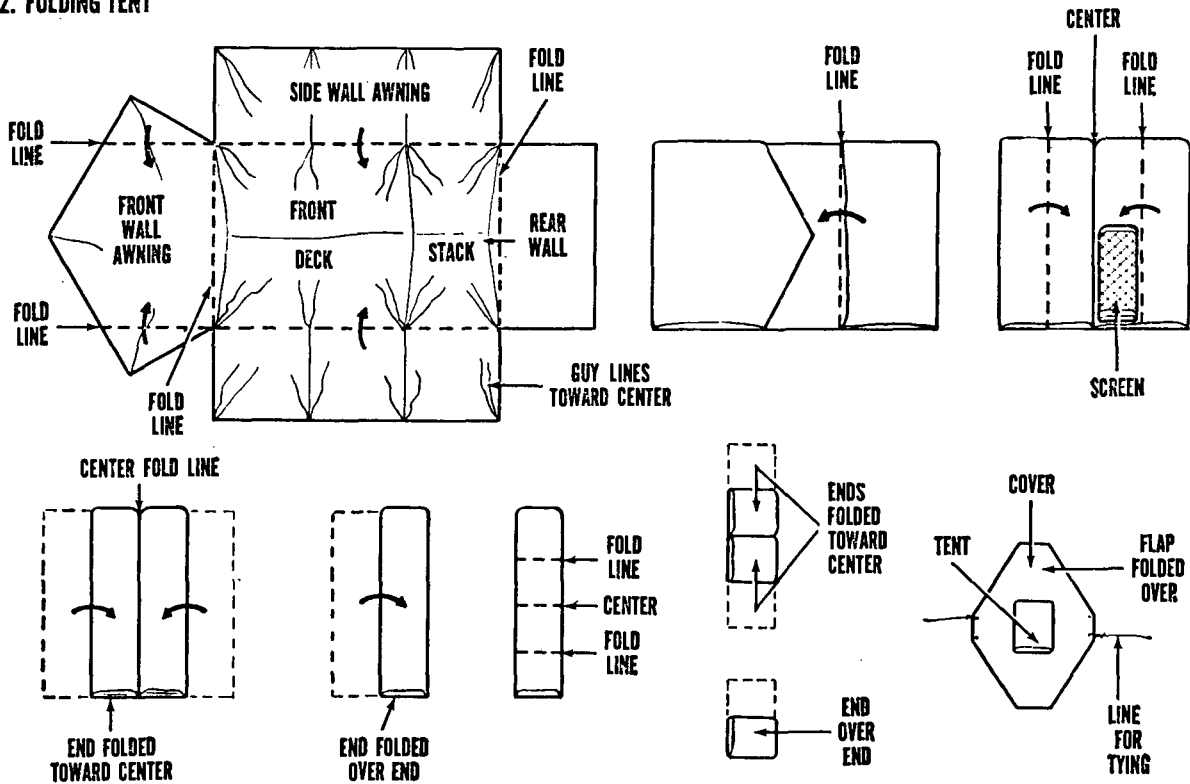

Figure 44. Steps in folding tent, kitchen, flyproof, M-1948.
(1) *Folding screen* (1, fig 44). Spread screen flat on ground and close slide fasteners. Fold in sod cloth and triangular part at top of front section to form a straight line. Fold ends toward center in 30-inch folds. Fold one end over the other end, making a 3-by 6-foot bundle.
(2) *Folding tent* (2, fig 44).